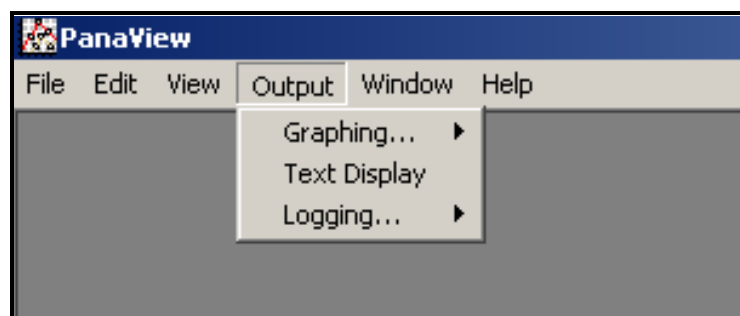

Figure 3-3: The Output Menu
1. In PanaView, pull down the *Output* menu, as shown in Figure 3-3 below, and click on the *Text Display* option.